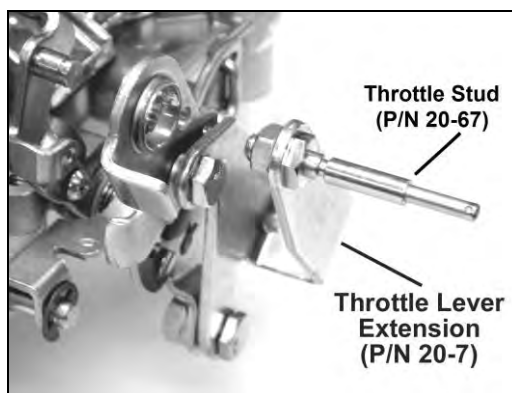

Figure 1—Chrysler applications
1. If you are replacing an existing Holley® carburetor, you may need to purchase and install a throttle lever extension (Holley® P/N 20-7) on the carburetor. Remove the throttle stud and nut from the original carburetor. You can purchase a new stud from your Holley® dealer (Holley® P/N 20-67). Install the stud in the throttle extension lever (**Figure 1**).